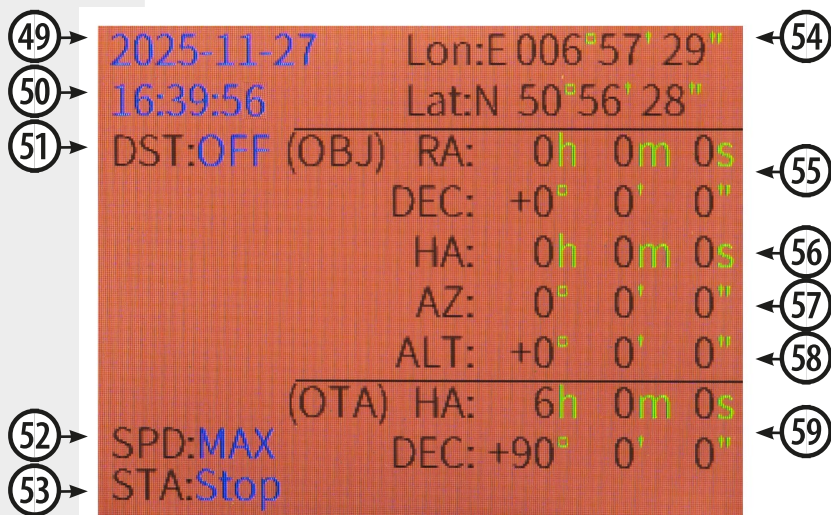

Fig. 22: Hand controller display
11.2. DISPLAY (FIG. 22)
- (49) Date
- (50) Time
- (51) Daylight saving time on/off
- (52) Tracking speed
- (53) Tracking on/off
- (54) Location coordinates
- (55) Object coordinates
- (56) Hour angle
- (57) Azimuth coordinates
- (58) Altitude coordinates